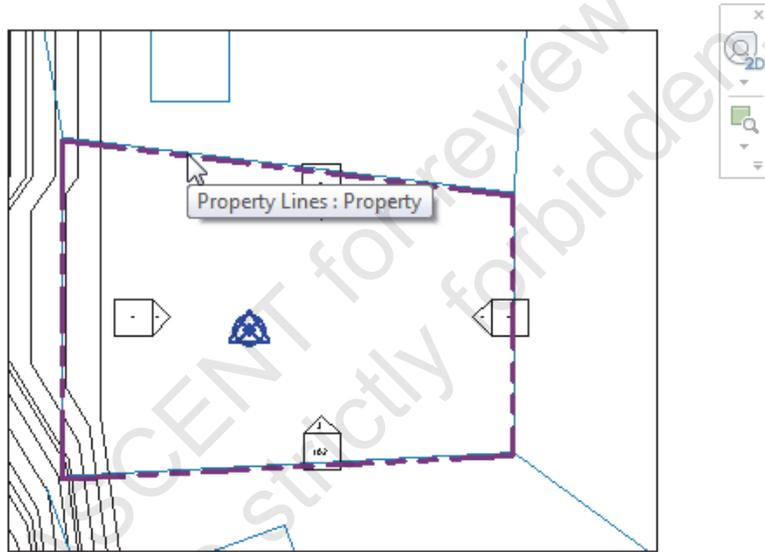

Figure 1–98
5. Click in the **New Site** view and select the Property Line, as shown in Figure 1–98.